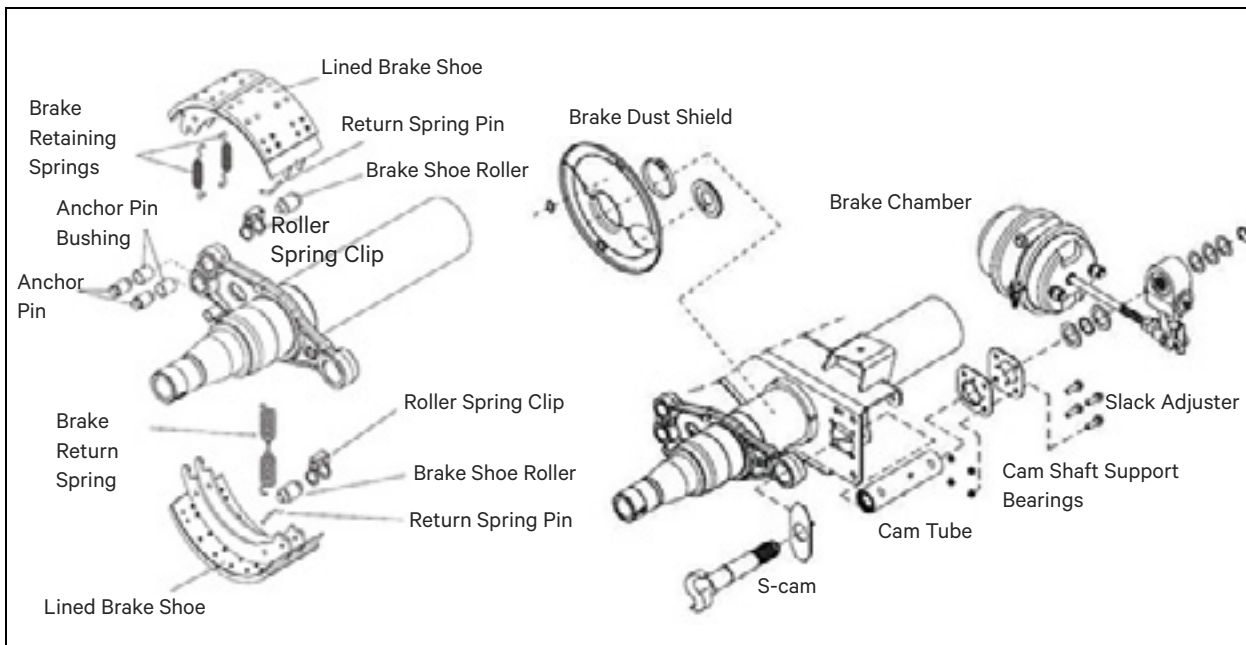

Figure 40 – Typical Brake Component Identification
It should be self-evident that properly maintained and correctly functioning brakes are a critical element in the safe and efficient operation of any trailer. All Flat and Step Deck Trailers are built with air operated drum brakes on every axle. Figure 40 illustrates the key components that make up the foundation brakes.
- i. Brake Drum (not shown in Figure 40)